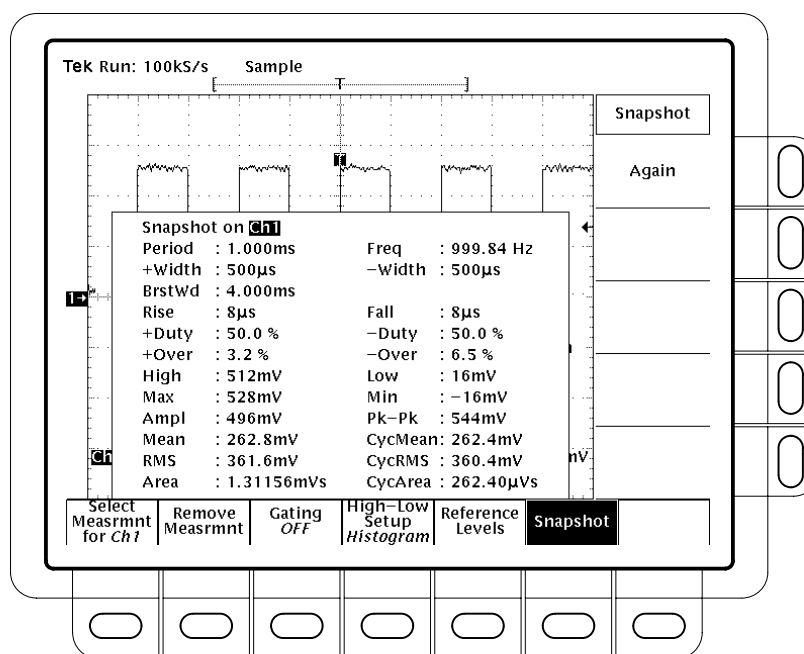

Figure 2–17: Snapshot of Channel 1
1. Press **Snapshot** (main) to pop up a snapshot of all available single waveform measurements. (See Figure 2–17).
6. Press **SETUP** → **Save Current Setup** (main) to display the Setup main menu (see Figure 2–18).